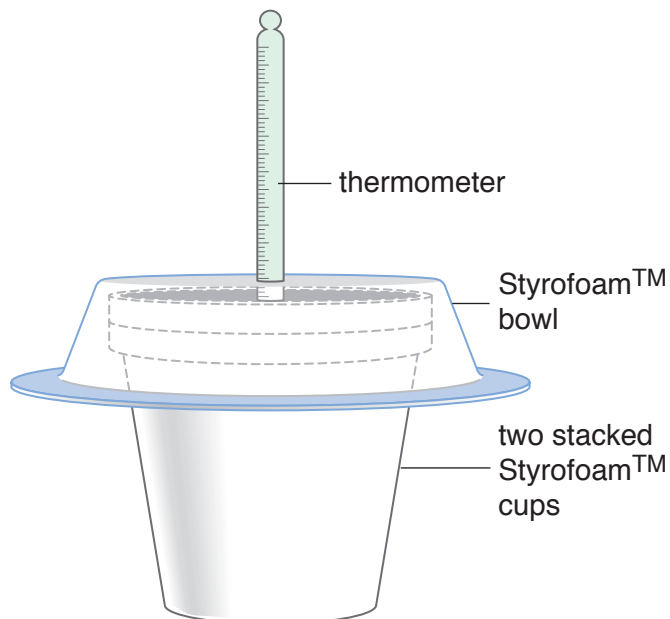

Figure 1
1. Create a coffee cup calorimeter (see Figure 1). To do so: